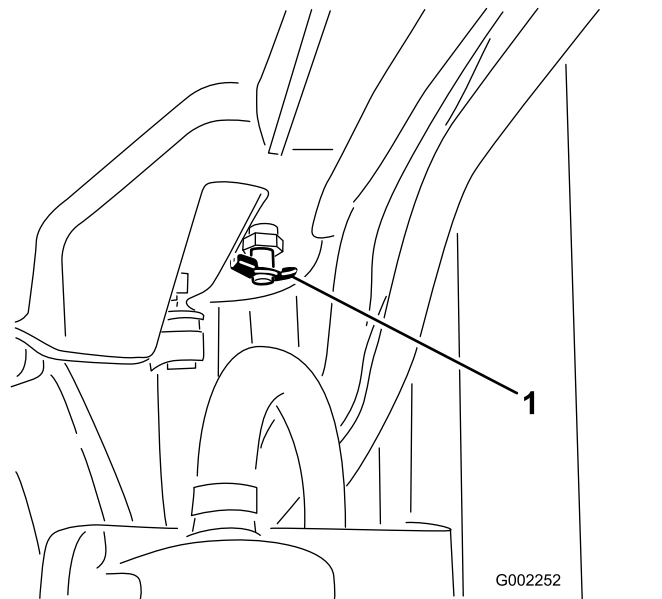

Figure 95
4. Open the drain valve and drain the coolant into the pan (Figure 95).
5. Close the drain valve (Figure 95).